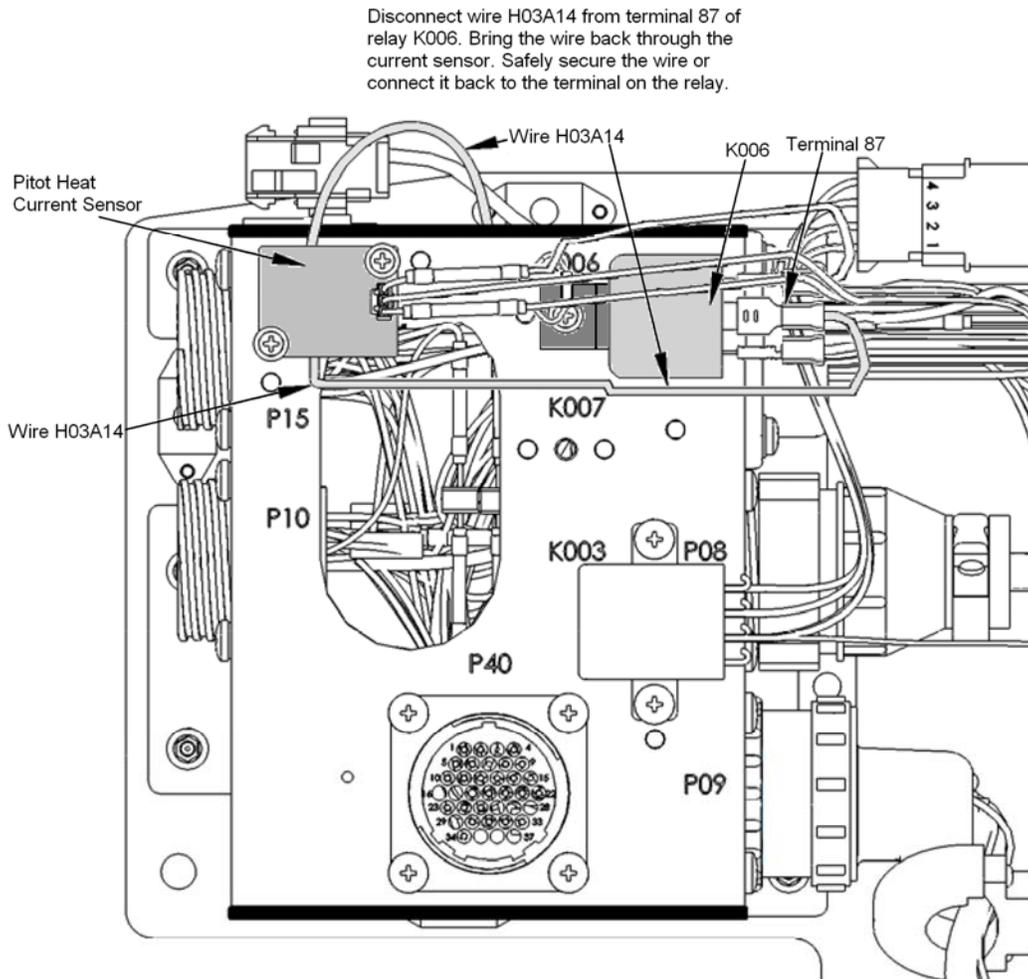

Figure 30-6 Location of the Pitot Heat Current Sensor Showing Wire H03A14
9. Disconnect wire H03A14 from terminal 87 of relay 006. See Figure 30-6.